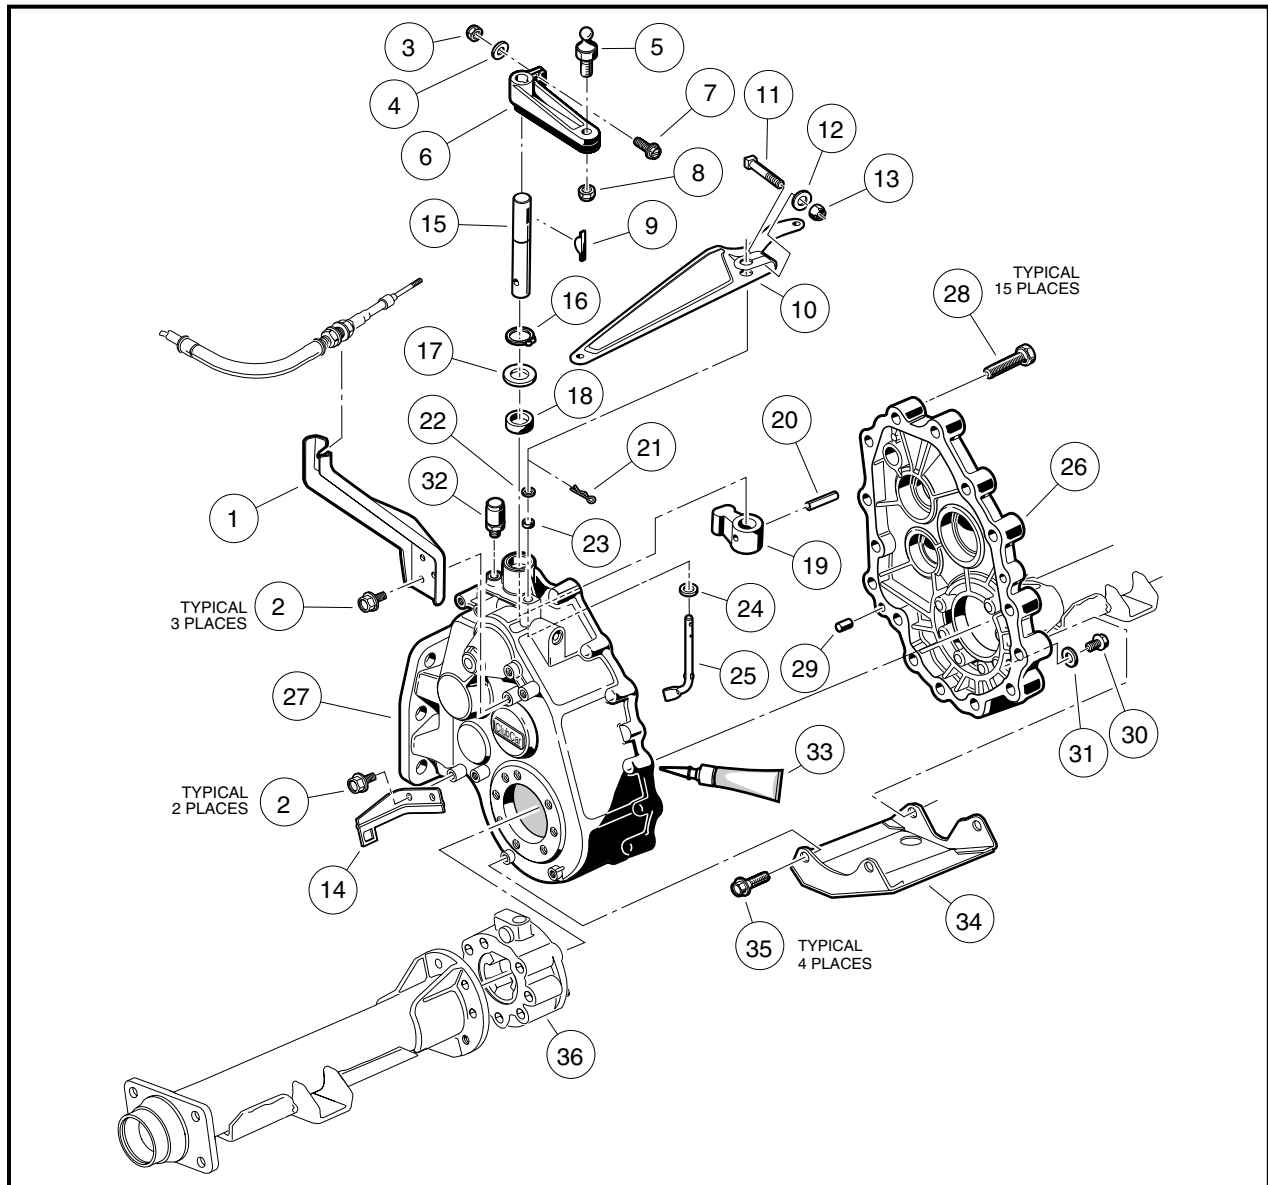

Figure 16b-42 Transaxle Gear Casing and Brackets
10. Turn the case section containing the gearing on edge as shown (**Figure 16b-43, Page 16b-20**). While holding it in this position, gently rock all the gear assemblies to slightly loosen them in their seating.